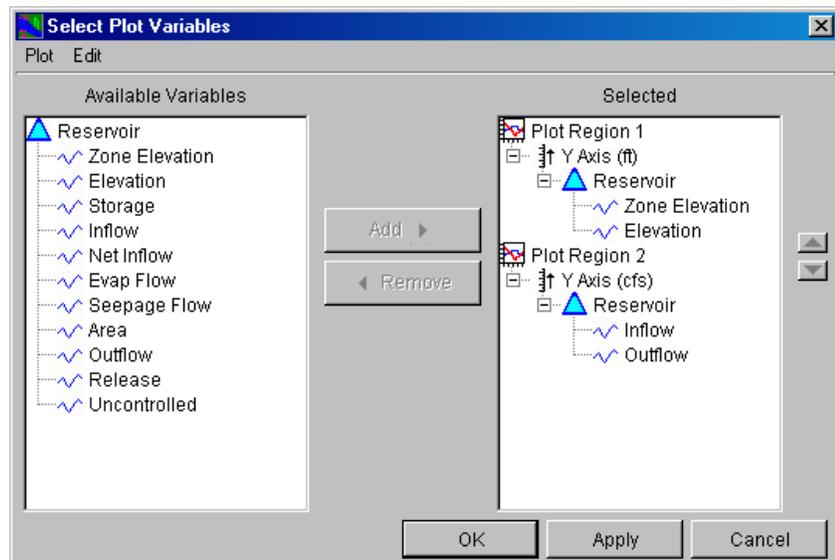

Figure 14.25 Select Plot Variables Dialog Box
2. Select **Select Variables** from the **Plot** Menu. The **Select Plot Variables** dialog box will appear (Figure 14.25).